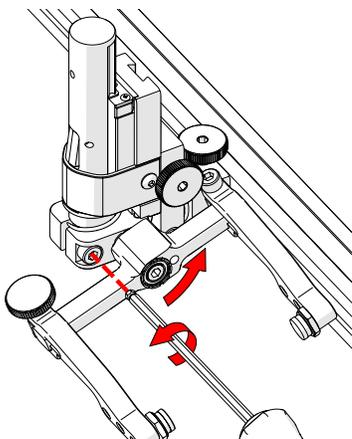

Fig. 84 - Loosen 3 mm screw
2. Using the supplied 3 mm hex driver loosen the transverse adjustment screw (Fig. 84) and rotate the yoke about the vertical shaft achieving the desired angle.